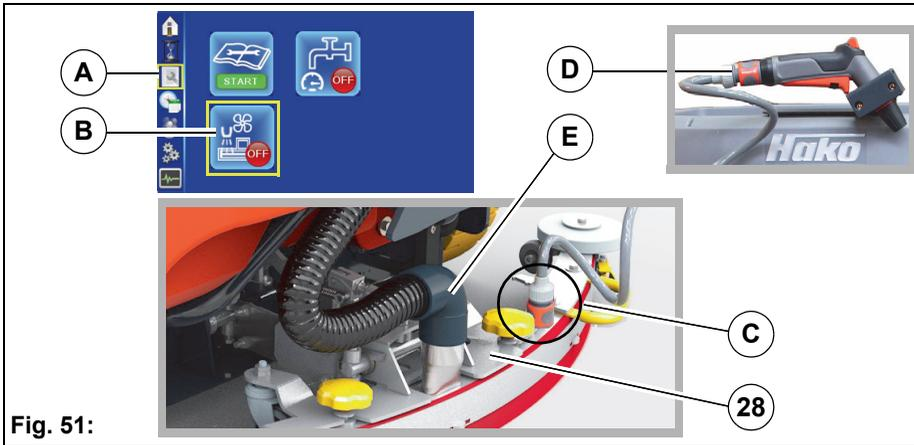

Fig. 51:
3. Pull off the suction hose **Fig. 51-E**.
2. In the sub-menu, call up menu item *Maintenance page Fig. 51-A*. Select soft key *Squeegee cleaning Fig. 51-B* with the turn-push knob and activate. The squeegee is lowered and the suction is switched on. The remaining squeegee cleaning time is displayed in 5 second intervals.
4. Connect hose to the connection of the squeegee **Fig. 51-C** using the 1/2" quick coupling, and to the water tap of the service connection.
4. Disconnect hose from the spray nozzle **Fig. 51-D** and attach to the squeegee connection **Fig. 51-C**.